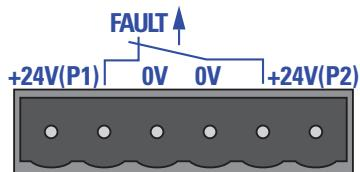

Figure 2: Pin assignment of the signal contact
- The signal contact (“FAULT”, for pin assignment of terminal block, see fig. 2) monitors the functioning of the device, thus enabling remote diagnostics. You can specify the type of function monitoring in the Management.